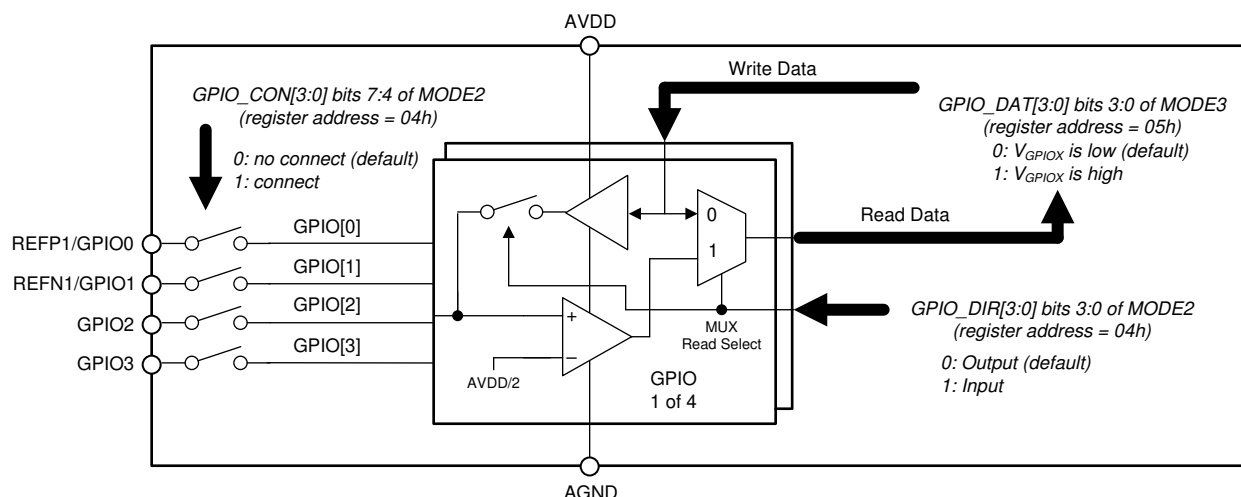

图 64. GPIO Block Diagram
The ADC provides four GPIO pins (GPIO0 through GPIO4). The GPIO are digital inputs and outputs with logic values that are read and written by the GPIO_DAT bits of the MODE3 register. Two GPIOs are available on dedicated pins and two GPIOs are multiplexed functions with an external reference (REFP1 and REFN1). The GPIO input and output levels are referred to AVDD and AGND. As Figure 64 shows, the input threshold value is $AVDD / 2$ (typical). The GPIO_CON[3:0] bits set the GPIO connection to the designated pin (1 = connected). The GPIO_DIR bits program the direction of the GPIO as an input (1) or output (0). The GPIO_DAT[3:0] bits are the data values for the GPIO. If a GPIO pin is programmed as an output, the value read is the register data previously written.